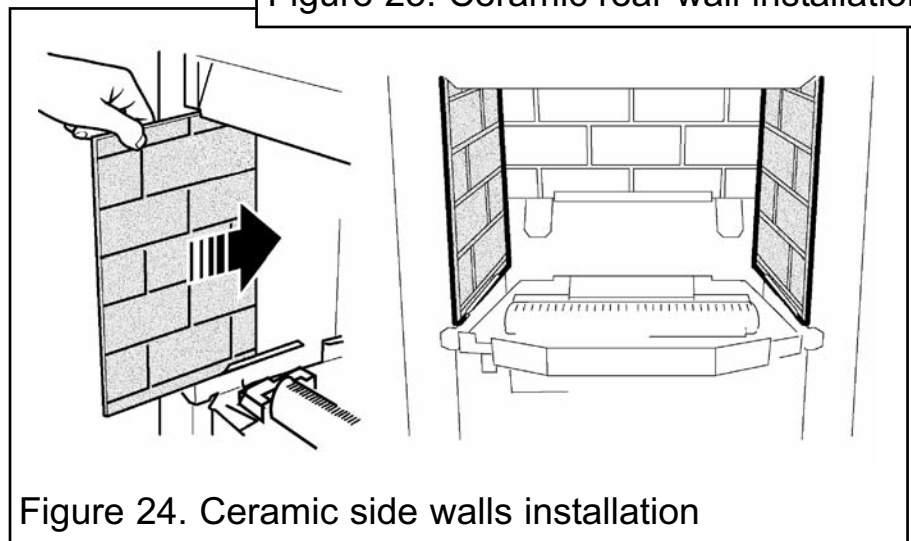

Figure 24. Ceramic side walls installation
2. Fit the ceramic side walls against the side faces of the burner compartment. The bottom edges of the walls should rest in the ledges at the sides of the firebox. Slide them in from the front and ensure that they touch the rear wall. Be careful not to damage the edges of the side walls (See figure 24).